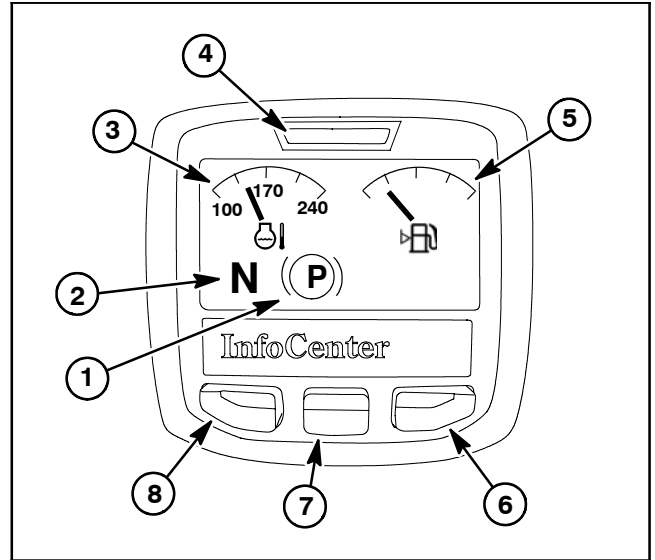

Figure 13
The two (2) InfoCenter main information screens (Figs. 13 and 14) are displayed after the initial splash screen has been displayed for several seconds. During normal machine operation, the main information screens provide machine information for the operator. Toggling between the main information screens is done by pressing the right button on the InfoCenter.